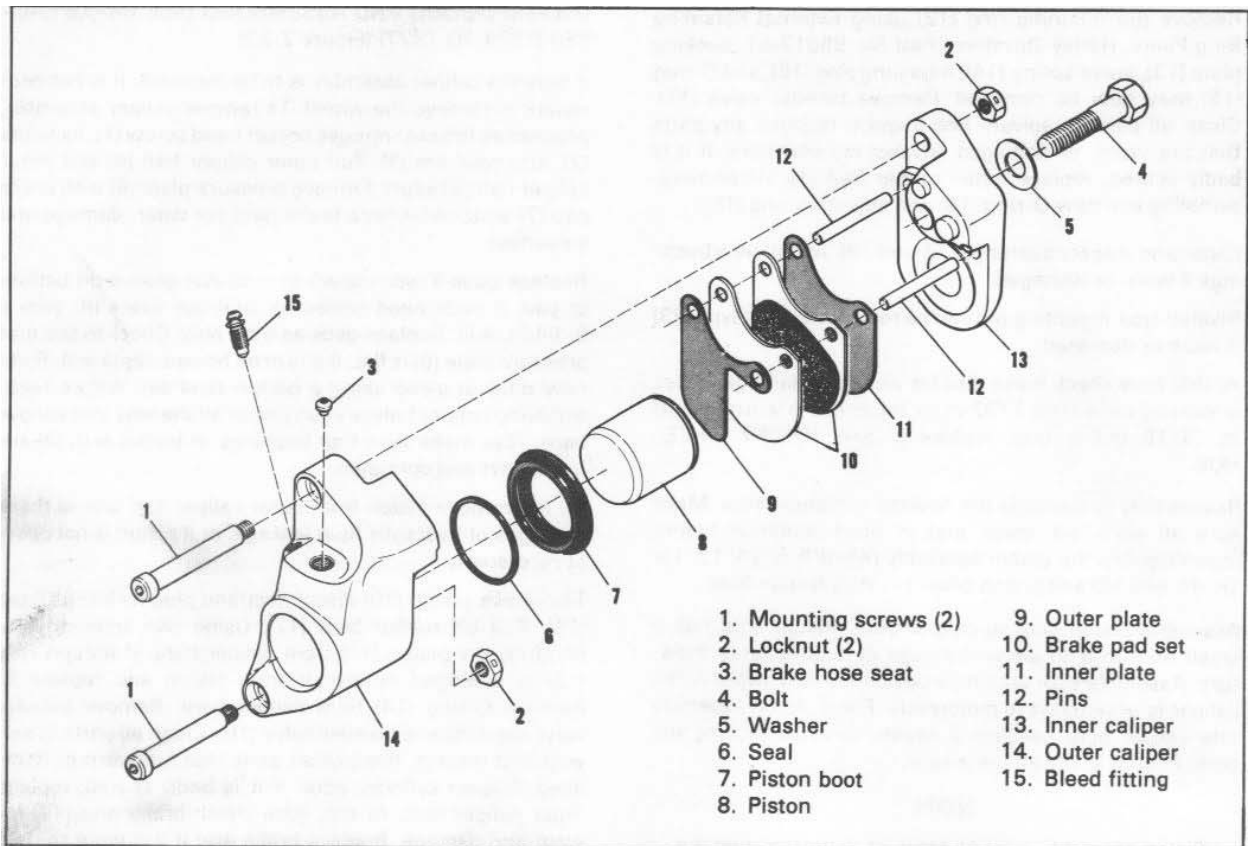

Figure 2-63. Front Brake Caliper (Left) (1978)
#### DISASSEMBLING AND ASSEMBLING DISC BRAKE CALIPER - 1978 (Figure 2-63)
Mount the caliper assembly to the front fork with two mounting screws (1) and locknuts (2). Torque screws to 115 to 120 in-lbs. Tighten bolt (4, Figure 2-63) to 45 to 50 ft-lbs torque.